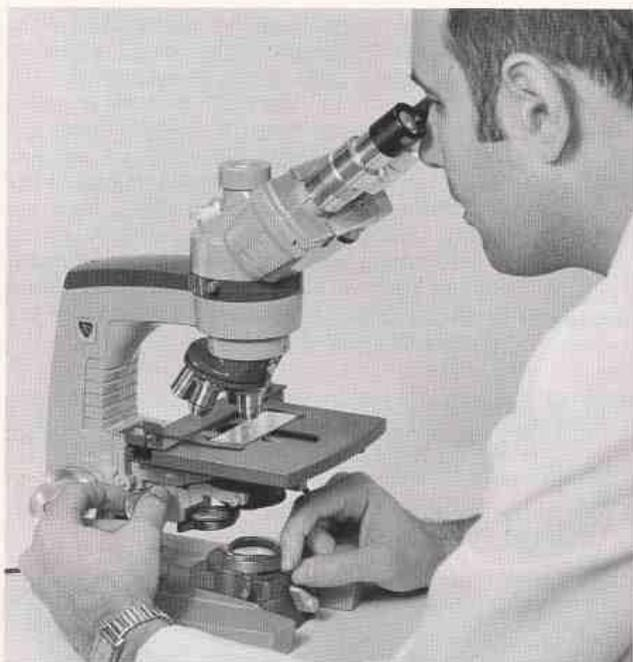

Figure 31. Viewing the Back Aperture
8. While viewing thru the microscope, partially close the field diaphragm (move lever approximately 1" to the right as shown in figure 31) so that the iris diaphragm leaves are imaged within the field of view. Bring the leaves into sharp focus by raising or lowering the condenser by means of the condenser rack and pinion knob without disturbing the fine adjustment knob setting.